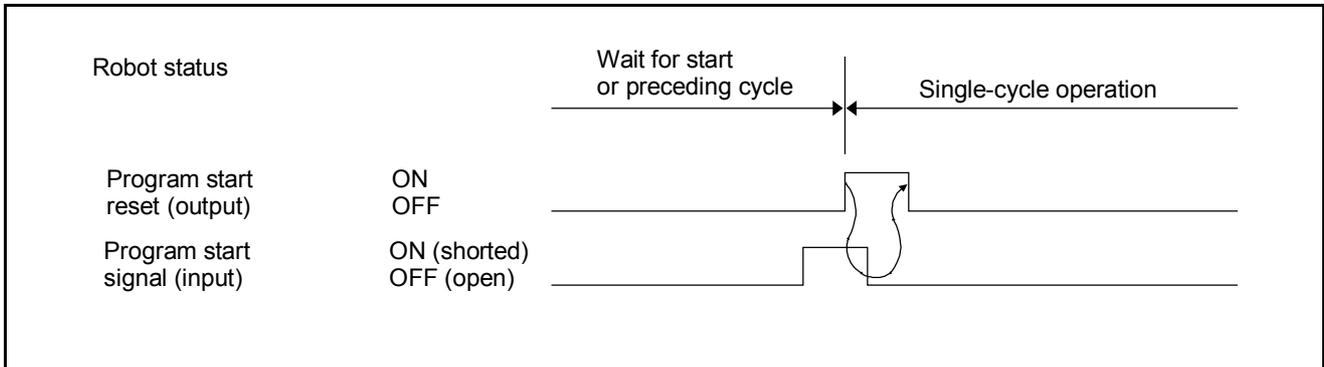

Figure 5-42 Example of Program Start Signal Fall Timing-1
② Example of program start signal fall (OFF) timing
- a) Figure 5-42 shows how to make the program start signal fall with a robot system output (program start reset output).